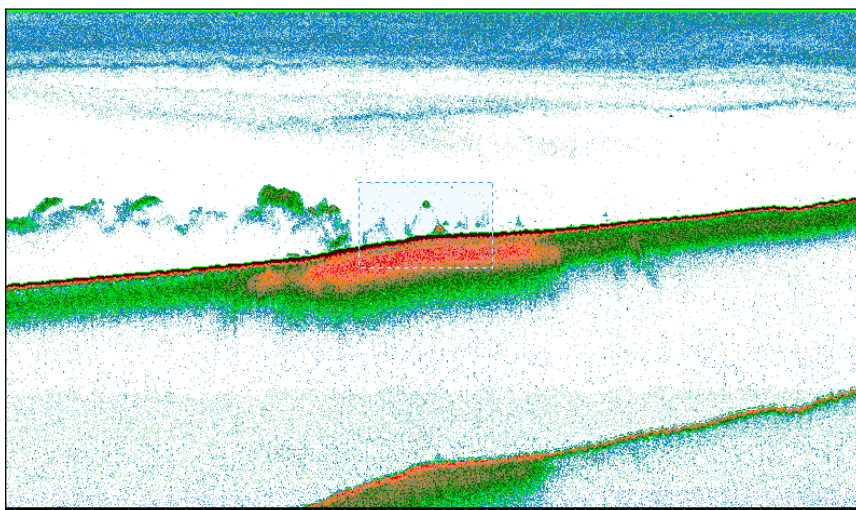
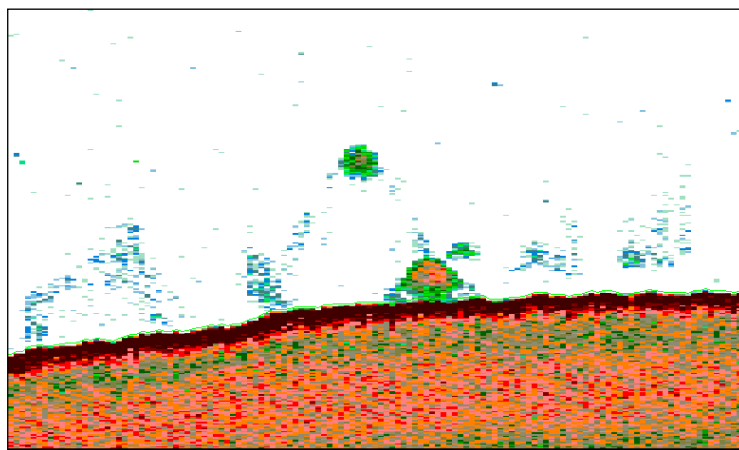

Figure 19. Echogram showing selection to be zoomed.
Figure 20. The Filesset1: SV pings echogram zoomed in over selection shown in Figure 19.
27. Adjust your echogram window until you see the view in Figure 19.
28. Use the Rectangle tool  on the toolbar to select the region shown in Figure 19, and zoom in. The echogram should resemble the image in Figure 20.